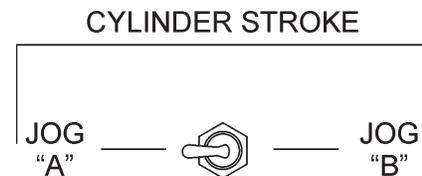

Figure 43. Manual Cylinder Jogging Switch
2. Turn and hold the **Manual Cylinder Jogging Switch** (Figure 43) to either **JOG “A”** or **JOG “B”** position to test the pressure of that cylinder.